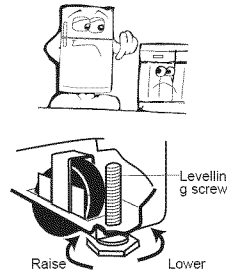

Figure 1.
- If your refrigerator has levelling screws only, follow the steps shown in figure 1.
- To raise or lower the front of the refrigerator, turn each screw in a clockwise or counterclockwise direction (figure 1 or 2).
- Set the temperature control to 3 (normal). Temperature control adjustments range from 1 (warmest) to 5 (coldest) (figure 1).
- Level the refrigerator. Remove wood supports and adjust the roller levels (FIGURE 1).
- Verify if the condenser has lint or is dirty (FIGURE 1)
- Verify the light intensity. If it is low, consult with a qualified technician (FIGURE 1).